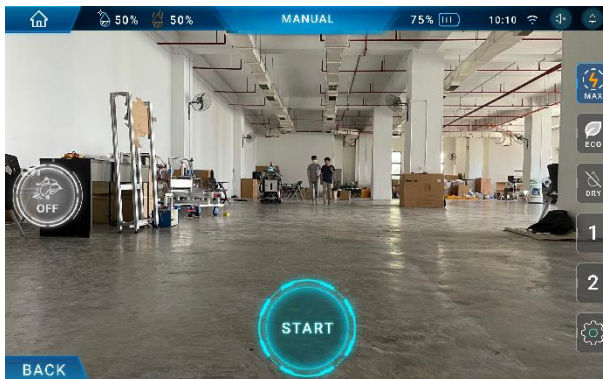

Fig 1
4. After selecting your settings select the 'START' button to start cleaning (Fig 1).